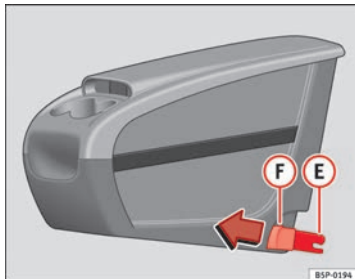
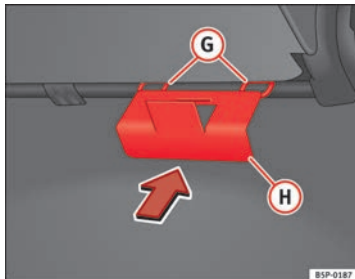

Fig. 111 Mobile storage compartment. Installation
Fig. 112 Mobile storage compartment mounting plate
- Fit the mobile storage compartment mounting plate **(H)** ⇒ Fig. 112 from the inside of the vehicle, through the rear part of the seat. It should be fitted between the backrest and the seat, in the central seat area.
- Set both mounting pieces together **(E)** ⇒ Fig. 111, with both mounting rings **(G)** ⇒ Fig. 112 and press hard until both the clips completely connect with the rings.
- Pull each of the buttons ⇒ Fig. 111 **(F)** on the clips (red buttons) forwards, until they snap out of place.